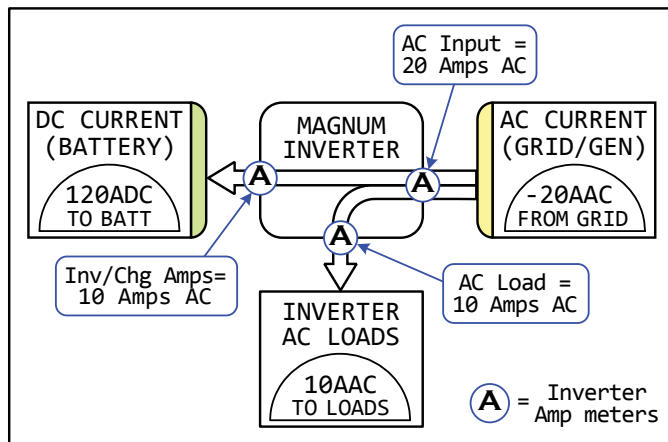

Figure 3-7, Current Flow – Standby Mode
- ◇ Standby mode example: 20A (input amps) minus 10A (charger amps) = 10A (load amps), see Figure 3-7. A load amps of 10A means $10A \times 120V = 1200W$ load on the inverter.